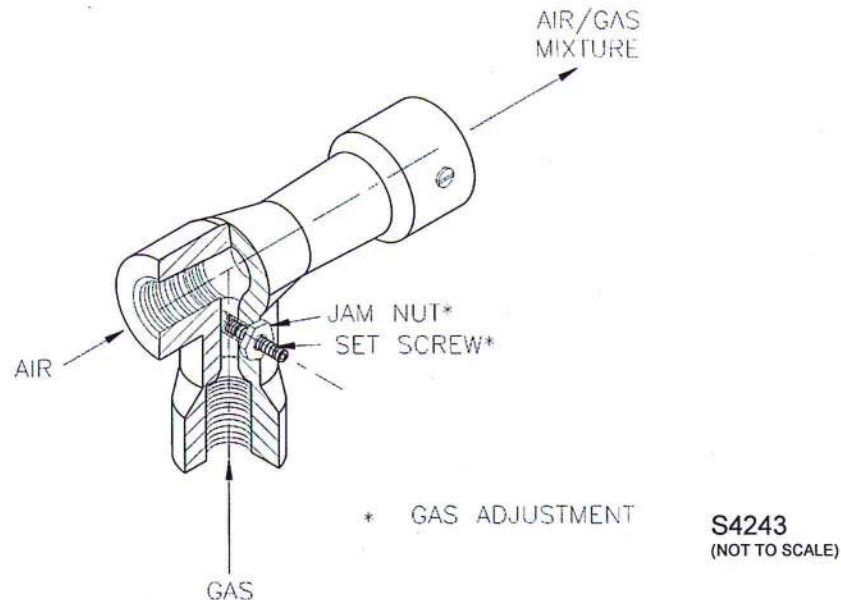

Figure 2. Pilot Mixer Adjustment
8. The set screw on the air/gas mixer (Figure 2) is used to control the air/fuel ratio of the IPG pilot. The pilot **MUST** be properly set up prior to use as a burner ignition source. If the pilot is not set up, it may fail to light burner. The pilot should be set according to the following procedure with pilot outside of the burner: